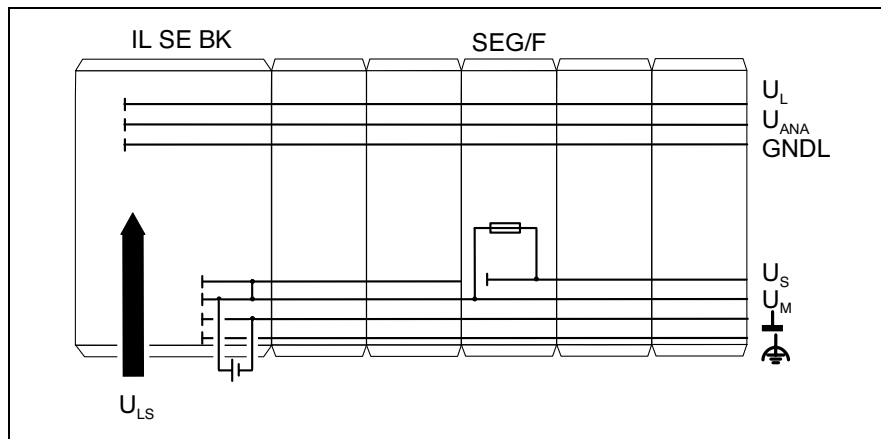

Fig. 5-7: Example: Interruption / setup of the voltage jumper through the segment terminal
- Coupling to the Functional Earth Ground (FE)** In the terminal, U_s and GND are capacitively coupled to the functional earth ground (FE).
- This principle is shown schematically in Fig. 5-7 by the example of a section of a station.